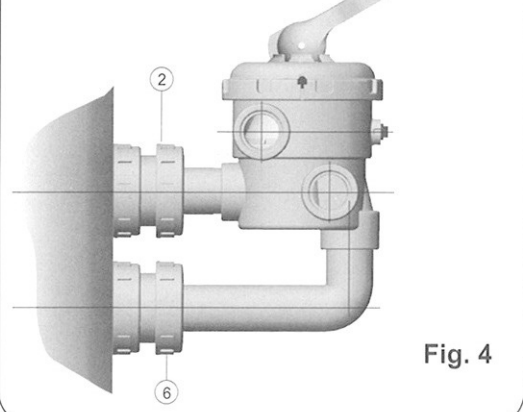

Fig. 4
1. Place the flat rubber seal (3) into the valve port marked TOP. Screw the union (1) into the valve port having passed it through the coupling (2). Tighten the union (1) firmly to ensure a good watertight joint.
2. Fit the selector valve to the upper filter outlet, ensuring that the o'ring (4) is in place between the filter and the valve assembly. Gently tighten the coupling (2) ensuring that the lower port of the valve remains perpendicular to the floor.
3. Fit the elbow (5) with the coupling (6) and the seal (4). Do not use adhesive at this stage.
4. Gently tighten the couplings (6) and (2) as shown in figure 4. Note the area of the elbow used for adhesive jointing. Unscrew coupling (6) and remove the elbow (5), clean the jointing area with solvent and apply the correct adhesive (solvent cement based on THF). Re-assemble as shown in figure 4 and leave to dry for at least 2 hours before using.
4. Viser légèrement l'écrou (6) et serrer fermement l'écrou (2) (figure 4) afin d'obtenir un parfait alignement de la vanne. Démontez l'écrou (6) et le coude (5) et nettoyez les endroits du collage avec du dissolvant. Appliquez la colle à base de THF sur le coude et sur la vanne. Positionner à nouveau selon figure 4 en serrant l'écrou (6) et laisser sécher 2 heures avant de mettre l'installation en fonctionnement.
4. Avvitare dolcemente la flangia (6) e fissare fortemente la flangia (2) (vedi fig. 4) in modo da ottenere il perfetto allineamento della valvola. Smontare la flangia (6) e il gomito (5) e pulire le superfici da incollare, con solvente. Utilizzare Tetraidrofurano (THF) o collante a base di THF. Applicare il collante sia sul gomito sia nel corrispondente foro della valvola. Posizionare, di nuovo (vedi fig. 4), serrando la flangia (6), la valvola, lasciando che indurisca per almeno due ore prima di far funzionare l'impianto.
4. Mutter (6) leicht andrehen und Mutter (2) fest anziehen gem. Abb. 4, so dass das Ventil perfekt in Linie ist. Mutter (6) und Knie (5) wieder abmontieren und die Klebezonen mit einem Lösemittel reinigen. Einen THF Klebel auf das Knie und das Ventil auftragen. Beide Teile wieder gem. Abb. 4 befestigen und Mutter (6) fest andrehen. Vor Inbetriebnahme 2 Stunden trocknen lassen.